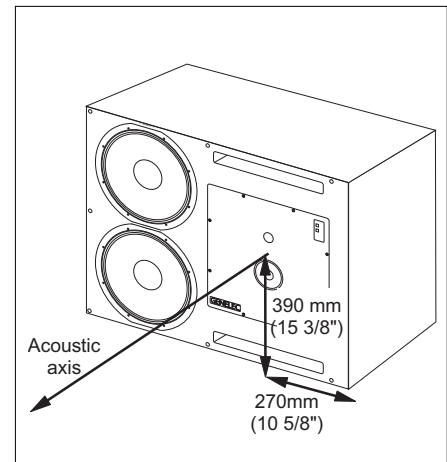
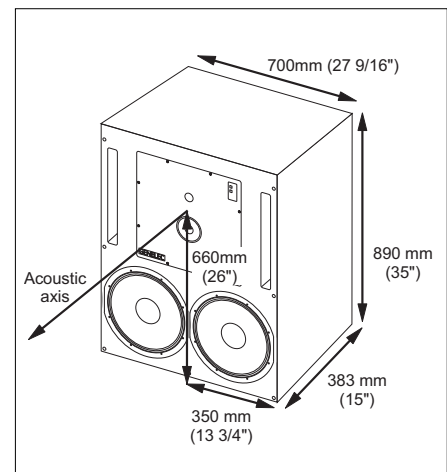

Fig 2.1 Horizontal configuration.
Fig 2.2 Vertical configuration.
The speaker has its acoustical axis midway between the midrange and treble drivers. This axis should be used as the listening and measuring axis of the system. (See Fig 2.1 and Fig 2.2)
- Set the microphone 1m away from the loudspeaker on the acoustic axis. (See Fig 2.1 and 2.2)